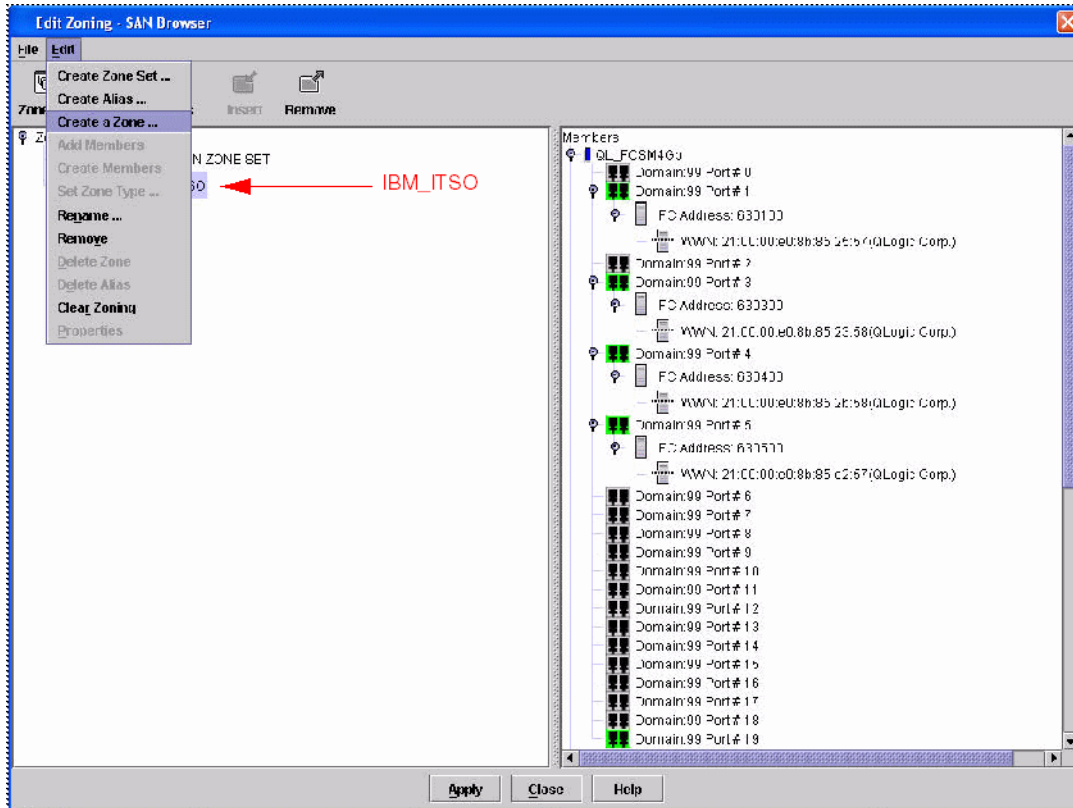

Figure 7-54 Edit Zoning - SAN Browser window
13. Highlight the Zone Set you just created. From the Edit Zoning - SAN Browser action menu (Figure 7-54), select **Edit** → **Edit Menu**.